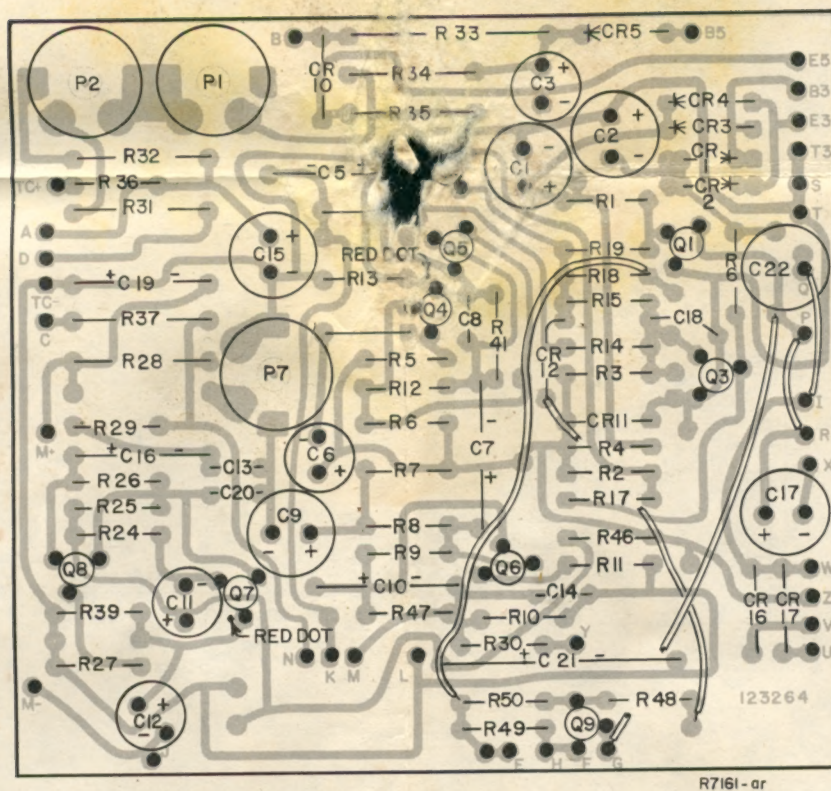

Fig. 5—Printed Circuit Board for the R7161C.
11. Adjust the zero adjustment potentiometer (P2) (see Fig. 5) until the R7161 meter reads 0 F.